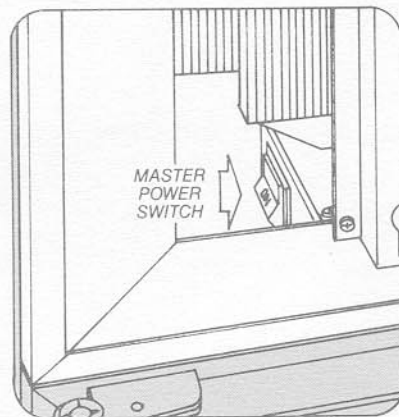

Figure 19
**Shut off circuit breaker to refrigerator or master power switch before attempting this maintenance. See Figure 19.**
The Model 590 features a Master Power Switch. This switch, which is located behind the top grille, will turn off all electrical power to the equipment. See Figure 19. This eliminates having to shut power off at the circuit breaker or having to pull the power plug from the wall receptacle. This switch can be used for either shutting down the equipment for servicing or during extended vacations.